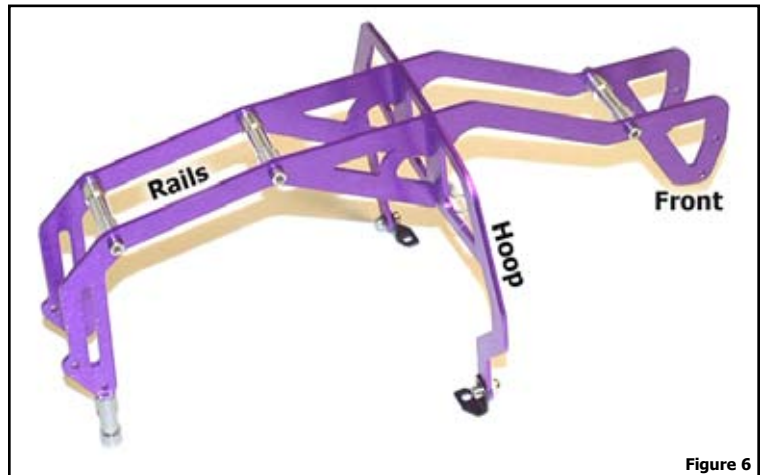

Figure 6
6. Assemble the cage as shown in *Figure 6*. Install the *Hoop* so the jog is on the right; secure the *Hoop* to the *Rails* with *Body Clips*. Install *Spacers* with *M3x8 SHCS* and medium threadlock compound. Attach the *Cage Mount 3* parts with *M3x8 SHCS* and *Lock Nuts* as shown, on the back of the *Hoop* on the right side, and in